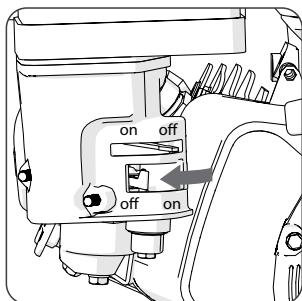

Fig. 5
- Turn the fuel tap to the 'OFF' position. (**Fig. 5**)